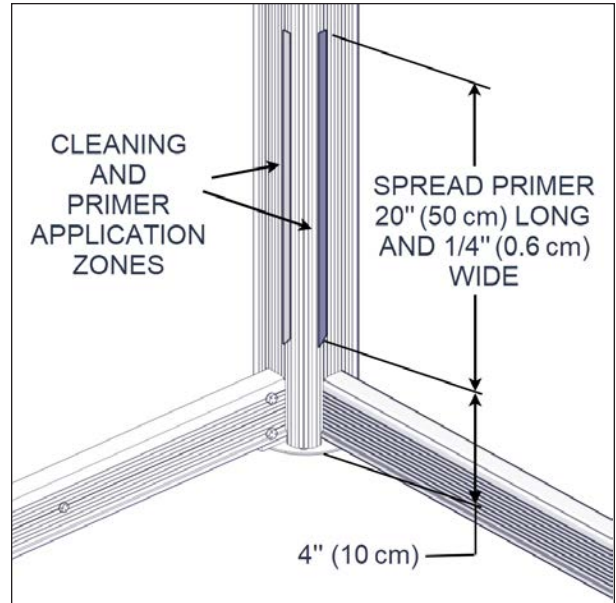

FIGURE 55: AREAS TO CLEAN
7. Clean the surface of the outer sleeve positioned on the opposite corner of the light button. Remove any dirt or contaminant and dry the surface see Figure 55 and Figure 56.
8. Use the supplied alcohol swab and rub it on the surface of the outer sleeve positioned on the opposite corner of the light button to clean the surface see Figure 55 and Figure 56. Wait two minutes for the alcohol to dry.
9. Apply the primer on the inside corner of the indicated areas. Refer to Figure 55 and Figure 56. The wire guard can also be held in place and taped off around its perimeter to mark off the application area.